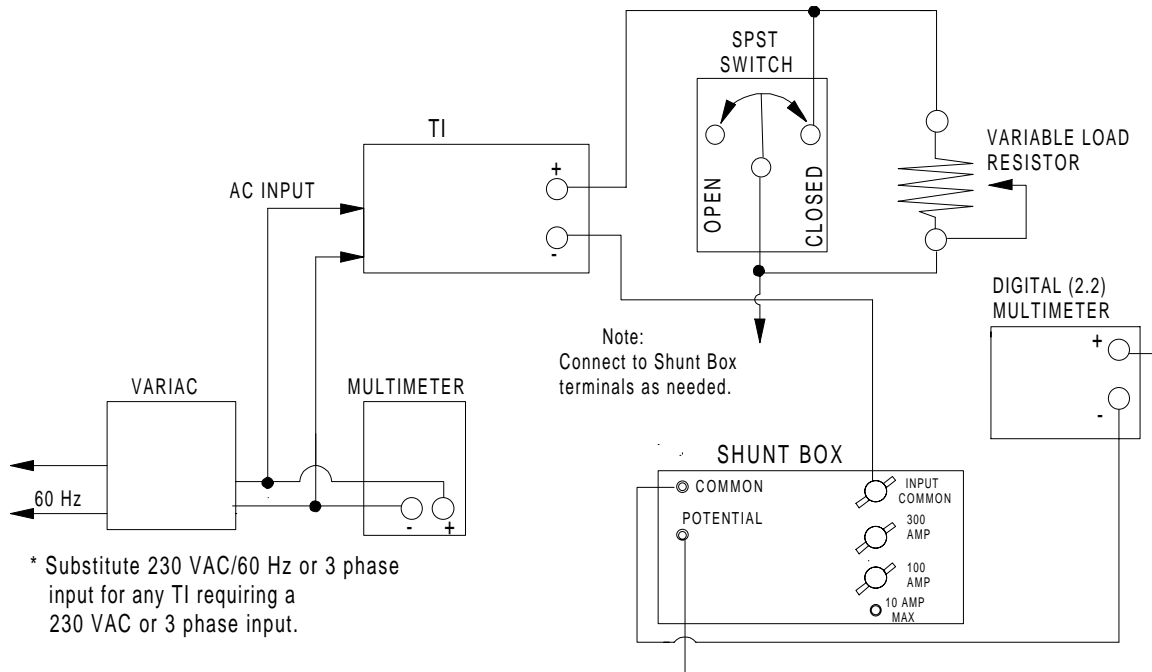

Figure 3.
4.4.1 Connect the equipment as shown in Figure 3.
4.4.2 To ensure that the TI is loaded to maximum current at maximum output voltage, determine maximum Variable Load Resistor (resistance connected across SPST shorting switch plus resistance of Shunt Box) value from rating column in Appendix A and connect to load resistor terminals of Figure 3. Adjust the Variable Load Resistor to ensure maximum current is drawn.